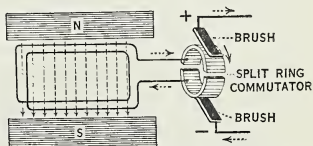

Fig. 318. Diagram of a direct current dynamo.
**Direct current.** When the end of the armature coil of a dynamo is attached to a ring split in two, called a *commutator*, we obtain a current at the brushes which flows in one direction only (Fig. 318). This flow is called a *direct current* (D. C.).
Although the direction of the current in the armature coil still changes at each half turn, the commutator also turns round each half turn. As a result, when the current does change its direction, that current is fed to the opposite brush, and continues to go through the circuit in the same direction (Fig. 318). The brush from which the current leaves the dynamo is called the *positive* or *plus brush*. The brush to which the current returns to the generator is called the *negative* or *minus brush*.